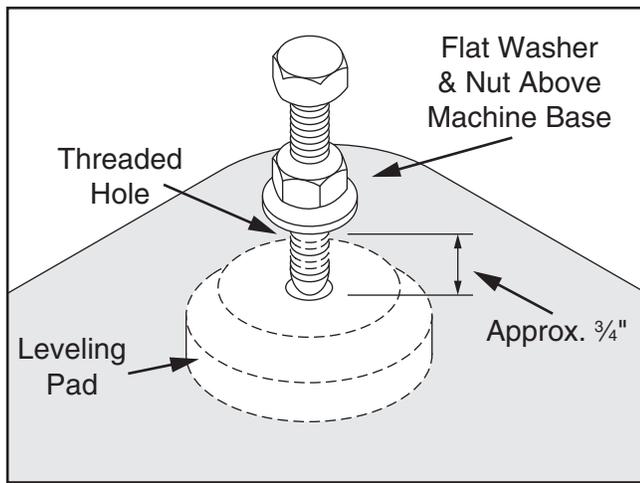

Figure 14. Leveling pad and bolt installed.
11. With machine still suspended above floor, thread leveling pad bolts, as illustrated in **Figure 14**, into holes used to bolt machine to pallet.